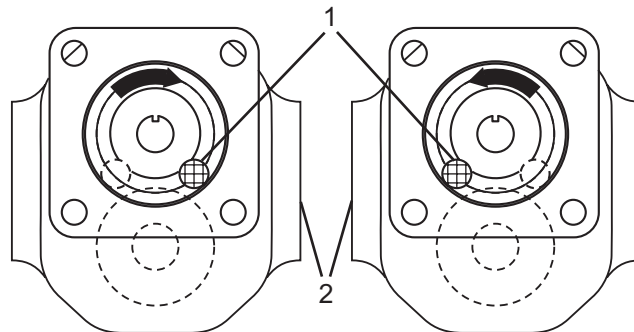

Figure 24
7. Remove the plug in the shaft end cover with a screwdriver and install it in the opposite drain hole. Screw in tightly and stake the plug with a punch at both edges of the screwdriver slot. For a single rotation pump, the plug (Figure 24, Item 1) is always located on the high pressure (outlet) side (Figure 24, Item 2) of the pump.